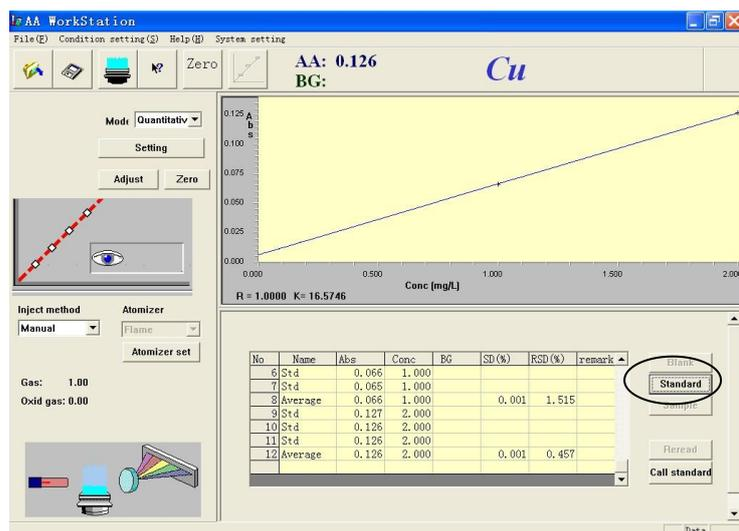

Figure 5-29
15. Start testing the samples with the method the same as that for testing of "Unknown samples", as shown in Figure 5-29.